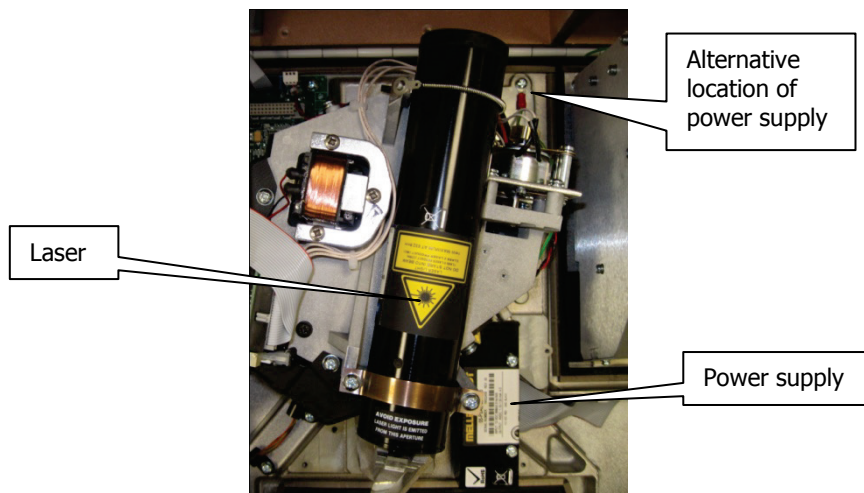

Figure 52 Laser and power supply
1. Open the main cover of the instrument as detailed on page 70 and identify the laser and laser power supply (Figure 52).
NOTE: If you have the External Beam Pack installed the laser power supply is in a different position (Figure 52). Follow the procedure in *Replacing the laser and power supply (External Beam Pack option fitted)* on page 86.